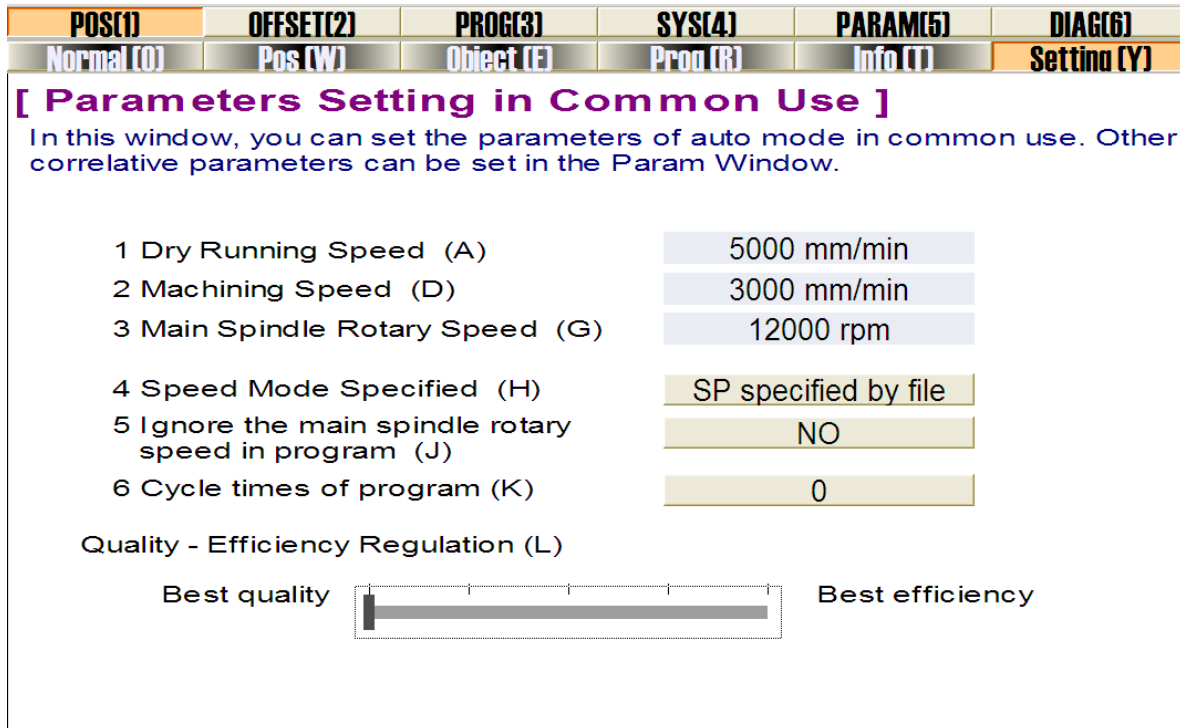

Fig. 3-16 Spindle speed setting in auto mode
In auto mode, turn to [Setting] window under [POS] functional area, as shown in Fig. 3-16. Click figure button next to each parameter to open input box, where you can enter desired spindle speed. Modification takes effect immediately.
As shown in Fig. 3-16, if parameter “Ignore the main spindle rotary speed in program” (corresponding to N72002 “IGNORE\_PROG\_SPINDLE\_REV”) is set to “No”, the spindle speed specified by S command in the program file will be enabled if S command exists; otherwise, spindle speed specified by “Main spindle rotary speed” will be enabled in machining. While if parameter “Ignore the main spindle rotary speed in program” is set to “Yes”, spindle speed specified by “Main spindle rotary speed” will be enabled regardless of S command in program file.
- 1) In auto mode, turn to [Setting] window under [POS] functional area, as shown in Fig. 3-16. Click figure button next to “Machining speed” to open input box, where you can enter a desired number. Modification takes effect immediately.
- 2) If item “Speed Mode Specified” in Fig. 3-16 is set to “SP specified by the file” (corresponding to parameter N72001 “SPEED\_ASSIGN\_TYPE” is set to “0”), feedrate specified by F command will be enabled if F command exists in the program file; otherwise, feedrate specified by “Machining speed” (corresponding to setup value of parameter N64021) will be enabled in machining. While if the item is set to “Default SP” (corresponding to parameter N72001 is set to “1”), the “Machining speed” will always be enabled regardless of existence of F command in the program file.